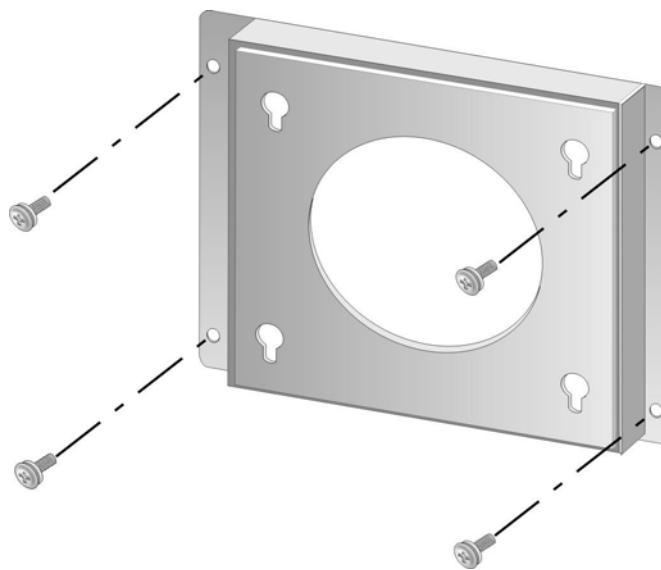

Figure 3-17: Wall Mounting Bracket
Step 5: Secure the mounting bracket to the wall by inserting the retention screws into the four pilot holes and tightening them (**Figure 3-17**).